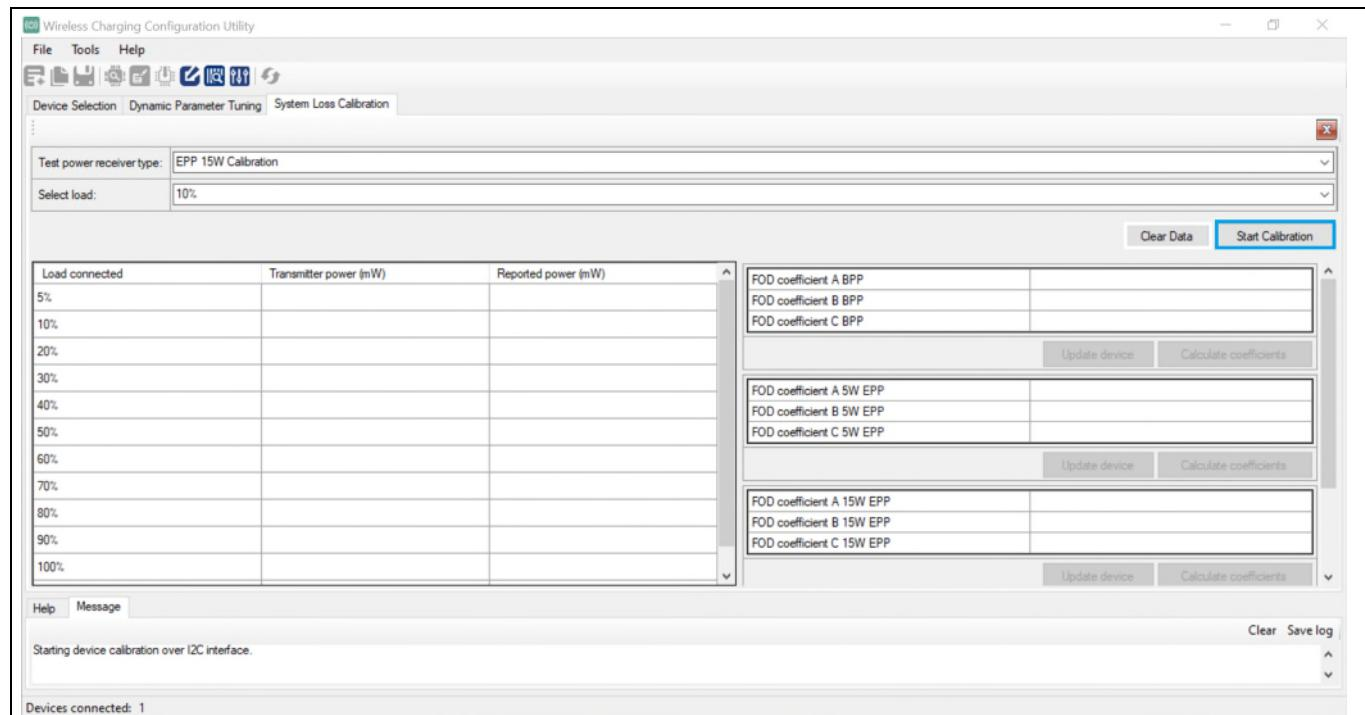

Figure 29 System loss calibration interface through Configuration Utility for calibration
12. Click the **Start calibration** button to read power values from the device as shown in Figure 29. The utility polls the device until 2 CEP packets with values 0, 1, and -1 are read to ensure that the load is stabilized.